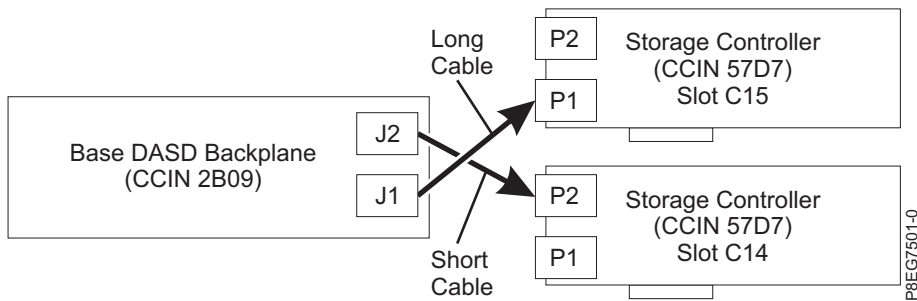

Figure 55. Reconnecting the SAS cable in a split-disk configuration
- If you have two PCIe3 x8 SAS RAID internal adapters (CCIN 57D7) (split-disk feature), the short SAS cable connects the upper disk drive backplane connector (J2) to the P2 connector on the adapter in slot P1-C14. The long SAS cable connects the lower disk drive backplane connector (J1) to the P1 connector on the adapter in slot P1-C15. See Figure 55.